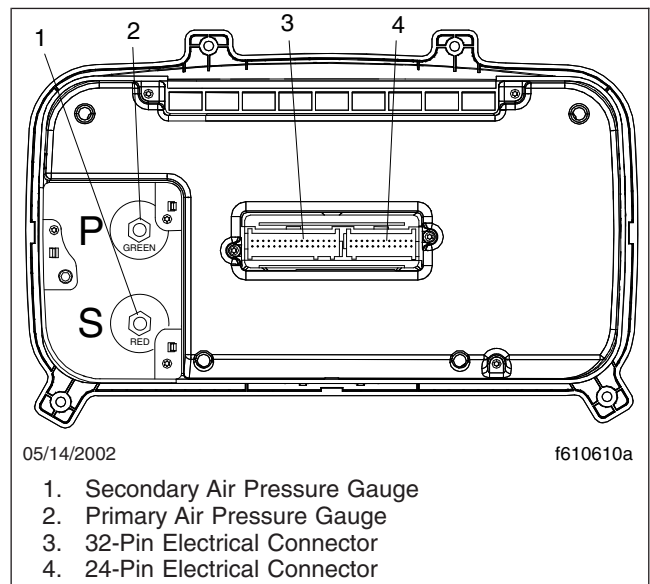

Fig. 4, ICU3, Rear View
9. Disconnect the two electrical connectors from the back of the ICU. See Fig. 4.